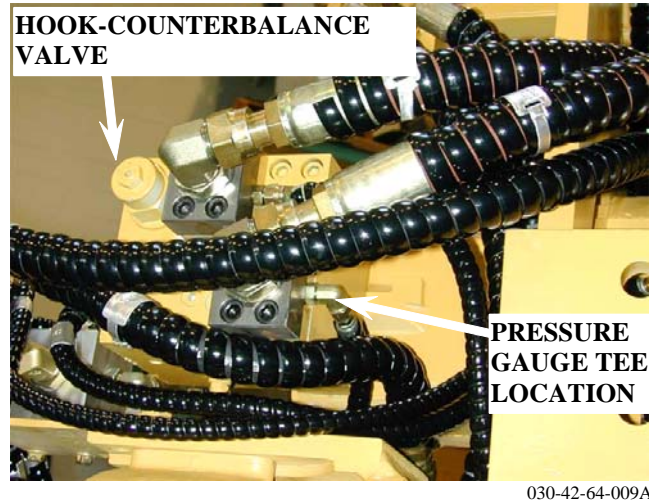

Figure 62: Location of pressure gauge tee, on hook winch brake manifold.
2. Install a tee fitting at the location shown in Figure 62 and reconnect the hose line.